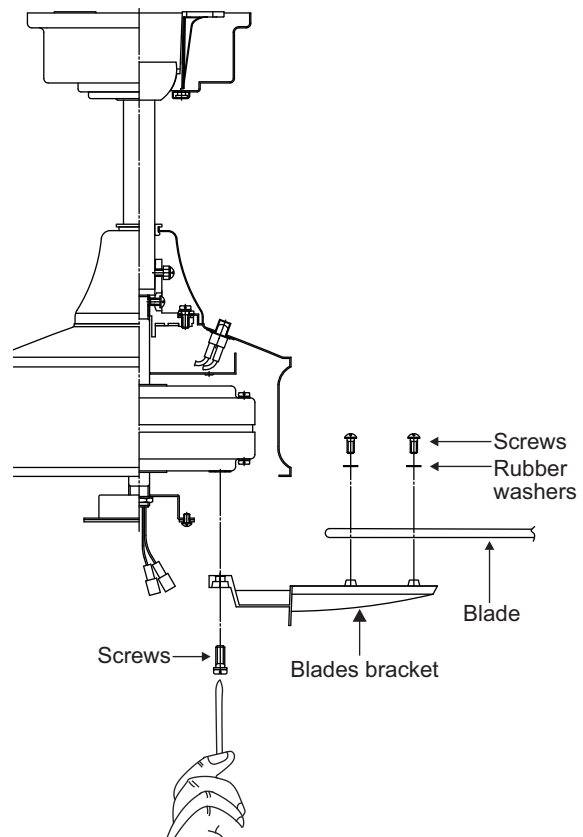

Figure 14
Step 3. Fasten blade assembly to motor using the screws supplied. (Fig. 14)